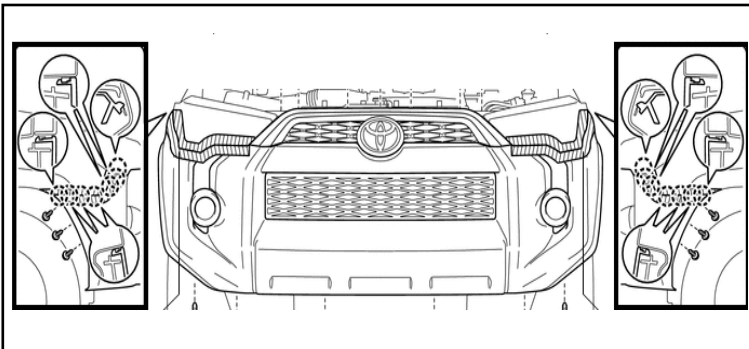

Figure 17
23. Loosen Front Bumper Cover. See Figure 17.